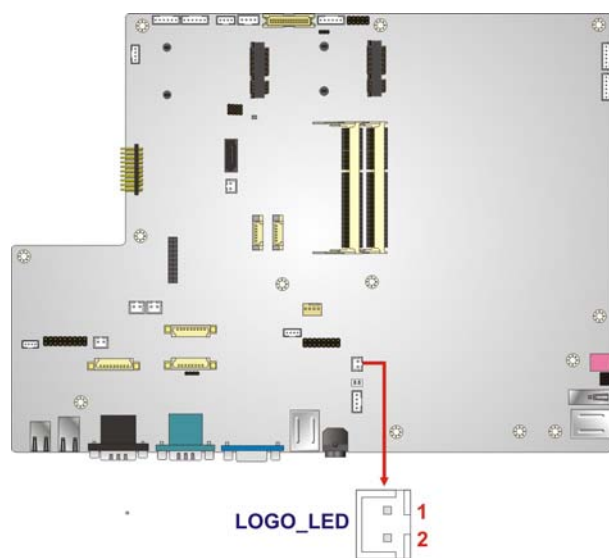

Figure 5-22: LOGO LED Connector Location
- CN Location: See **Figure 5-22**